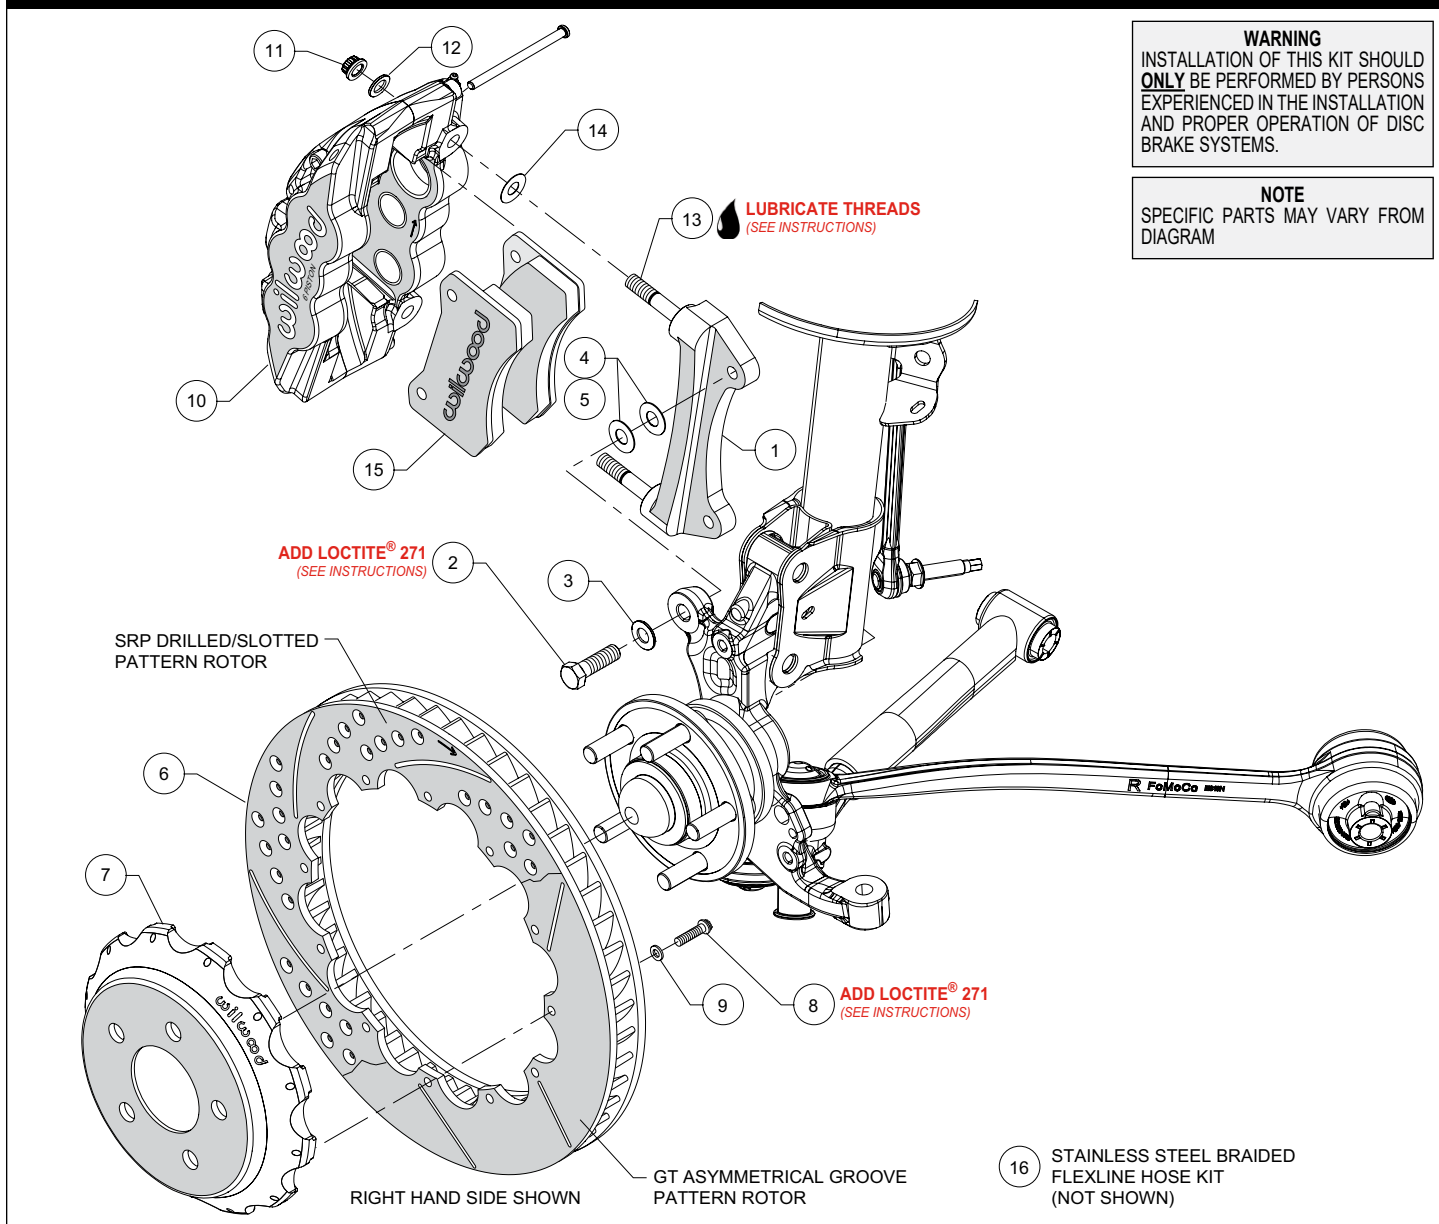
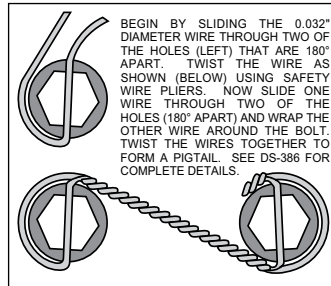

Figure 1. Typical Installation Configuration
Figure 3. Safety Wire Diagram
**Assembly Instructions** (numbers in parenthesis refer to the parts list and Figure 1 on the preceding pages):
- The caliper mount bracket (1) should initially be installed with clean, dry threads on the mounting bolts. Orient the bracket, as shown in Figure 1 and Photo 1, and install using bolts (2) and washers (3). Initially place two .033" thick shims (4) on each bolt between the bracket and upright, Figure 1. Temporarily tighten the mounting bolts. **NOTE: The bracket must fit squarely against the mount bosses on the upright.** Inspect for interference from casting irregularities, machining ridges, burrs, etc. Later, after the caliper alignment has been checked, the mount bolts will be secured using red *Loctite*® 271.
- Orient the rotor (6) and the hat (7) as shown in Figure 1 and Photo 2. Attach rotor to hat using bolts (8) and washers (9). Apply red *Loctite*® 271 to the bolt threads and torque to 155 in-lb using a criss-cross pattern. For an added measure of security, the bolts may be safety wired using standard 0.032 inch diameter stainless steel safety wire as shown in Figure 3. Refer to Wilwood's data sheet DS-386 (available at [www.wilwood.com/Pdf/DataSheets/ds386.pdf](http://www.wilwood.com/Pdf/DataSheets/ds386.pdf)) for complete safety wire installation instructions.
- **NOTE: This kit contains distinct right and left hand calipers that must be mounted in a specific direction, as described below.** Lubricate the caliper mounting studs (13) with lightweight oil. Initially place one .030" thick shim (14) on each stud between the caliper and the bracket, as shown in Figure 1 and Photo 4. Mount the caliper (10) onto the bracket (1) using lock nuts (11) and washers (12), Figure 1. Temporarily tighten the lock nuts. Ensure that the caliper is mounted so the largest pistons are at the rotor exit end of the caliper, in relation to the direction of the rotor. View the rotor through the top opening of the caliper. The rotor should be centered in the caliper, Photo 5. If not, adjust by adding or subtracting shims (4 and/or 5) between the bracket and the upright. Always use the same amount of shims on each of the two mounting bolts. Once the caliper alignment is correct, remove the bracket mounting bolts one at a time, apply red *Loctite*® 271 to the threads, and torque to 60 ft-lbs.
- Remove the two pad retaining pins from the caliper (10) by carefully popping out the pin retaining clips and sliding out the pins. Insert the brake pads (15) into the caliper from the bottom, Figure 1 and Photo 6. With the friction material facing the rotor, secure the brake pads in place with the pad retaining pins and clips, Photo 7. Reinstall the caliper onto the caliper mounting bracket and temporarily tighten the lock nuts. Check that the top of the brake pad is flush with the outside diameter of the rotor, Photo 8. If not, adjust by adding or subtracting shims (14) between the caliper and the bracket. After the caliper pad height is set, torque the caliper lock nuts (11) to 47 ft-lb.